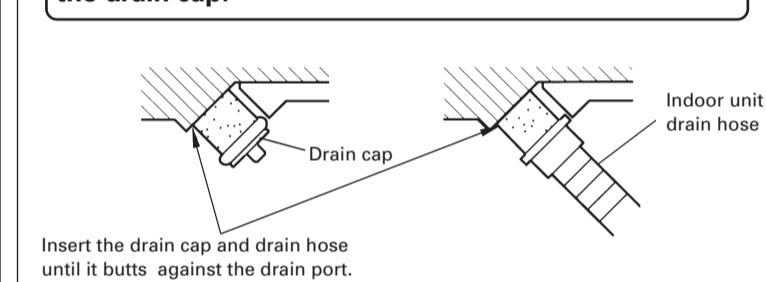

Fig. 7
- Install the indoor unit piping in the direction of the wall hole and bind the drain hose and pipe together with vinyl tape. (Fig. 7)